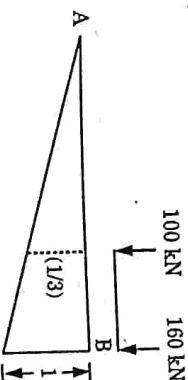

Fig. 13.
- iii. For absolute maximum negative shear, the load position is as shown in Fig. 13.